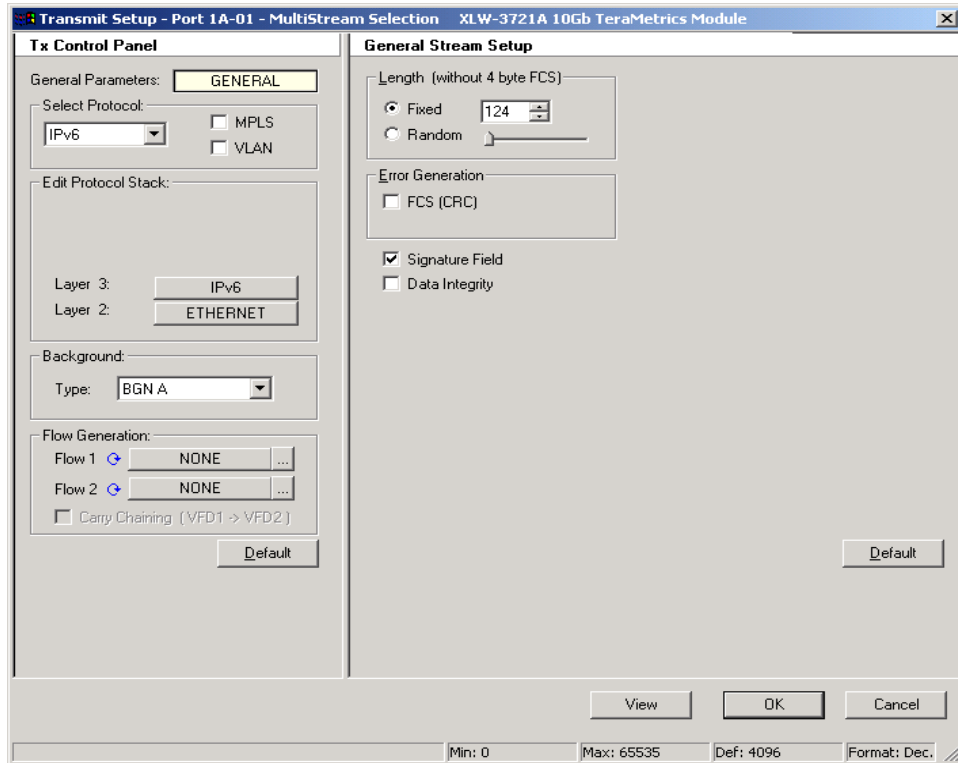

Figure 8-51. Transmit Setup window
- 8 Click **OK** to display the *Transmit Setup* window. (Refer to Figure 8-51 on page 404.)